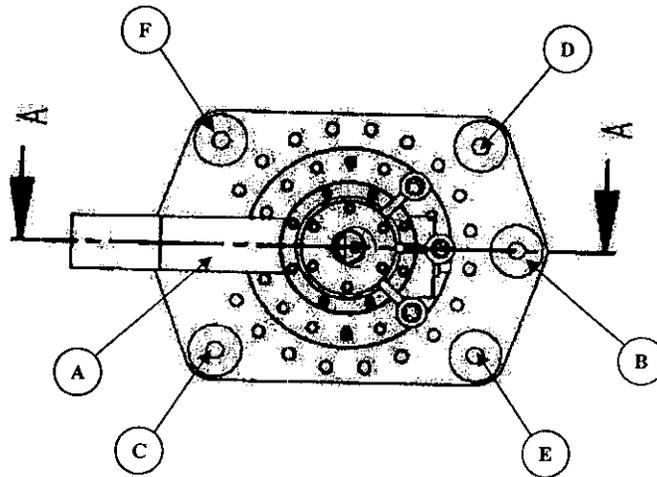

Figure 1.32.2 The specified sequence for tightening the Belleville washer assemblies.
1.29.4 Using the sequence A through F in Figure 1.32.2, sequentially tighten the loading nuts ¼ turn until the total compression is 1.8 mm at each of the six locations. As each loading nut is tightened ¼ turn, check off the appropriate line.